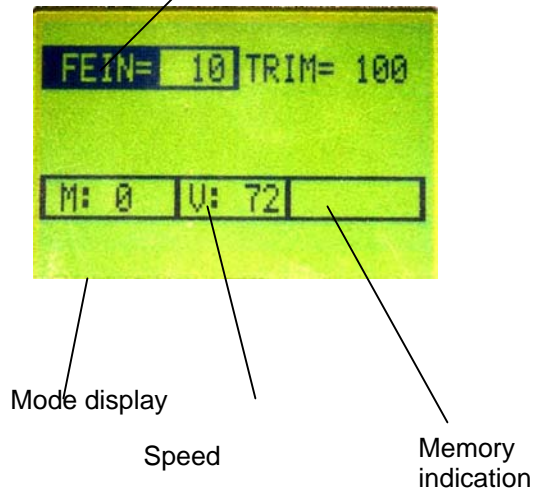

Fig. 37
- The normal display mode (fig. 37) shows the selected fine and trim section thickness with additional status indications at the same time.